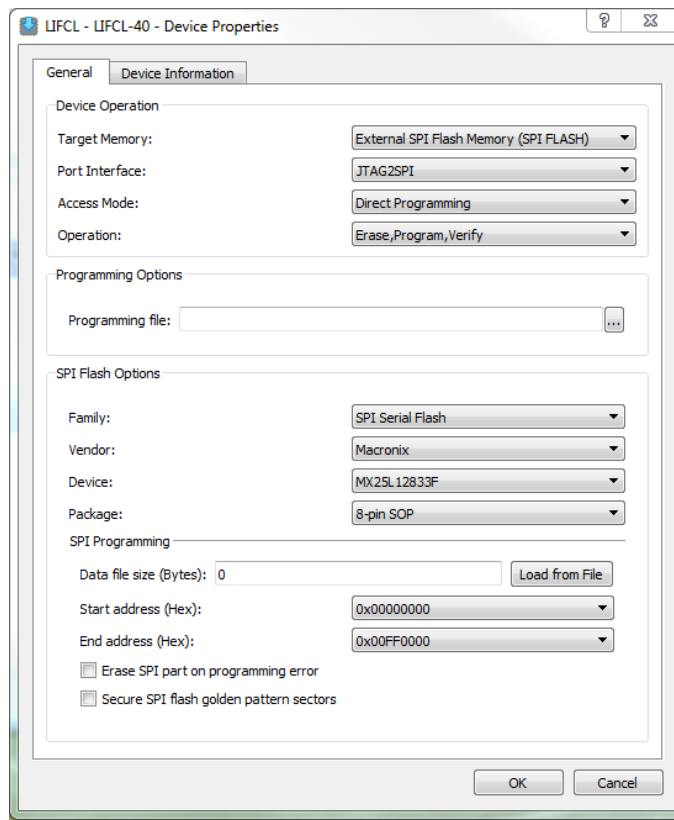

Figure B.8. Device Properties
5. For **SPI Flash Options**, make the selections in Figure B.8 below to select the Macronix 25L12833F device.